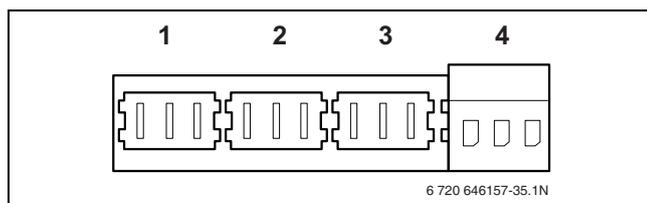

Fig. 39 120 VAC Connections
- ▶ Connect the external heating or system pump (for situations where the pump of the Buderus pump group is not used) to the green PK terminal (→ fig. 39). The maximum allowed connected load of the pump = 100 Watts.
- ▶ Connect the DHW pump to the grey PS terminal (→ fig. 39). The maximum allowed connected load of the pump = 100 Watts.
- ▶ Connect the DHW circulation pump to the lilac PZ terminal (→ fig. 39). The maximum allowed connected load of the pump = 100 Watts.